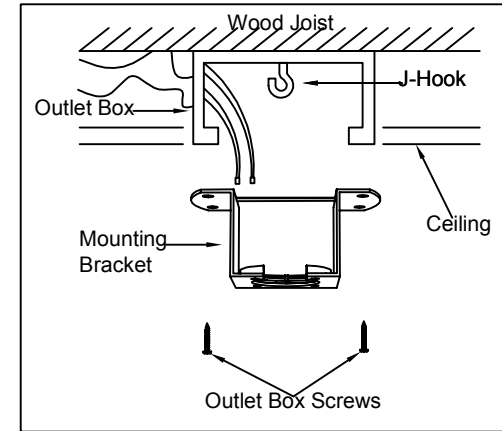

Figure2.1
- Install J-Hook through center of outlet box and into the wooden joist (Figure 2.1).